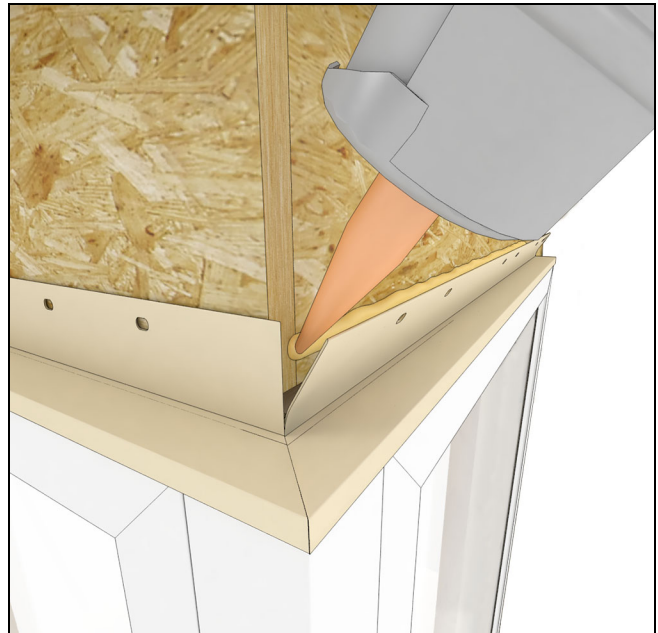

Figure 55
3. Seal behind the nailing fin at head jamb and jambs. See Figure 55.